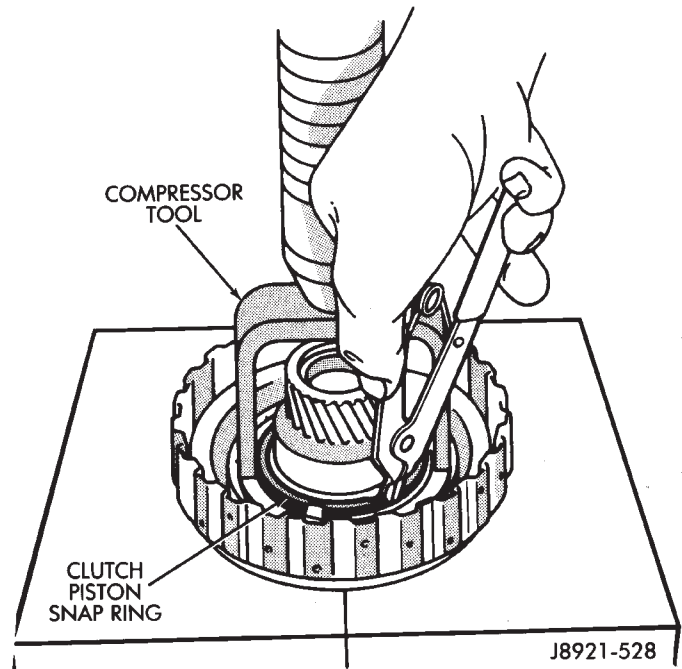

Fig. 8 Removing Clutch Piston Snap Ring
(6) Remove clutch pack snap ring and remove the clutch pack.
(7) Compress piston return spring with Tool 7538 (Fig. 8). Remove snap ring and remove compressor tool.
(8) Remove compressor tool and piston return springs.